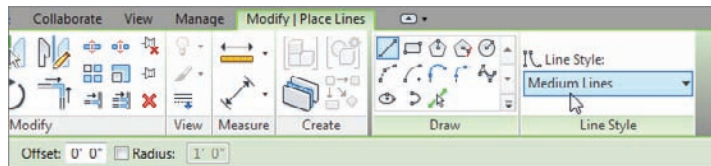

FIGURE 12.84 Click the Medium Lines button under Line Style.
7. In the Line Style menu, click Medium Lines, as shown in Figure 12.84.